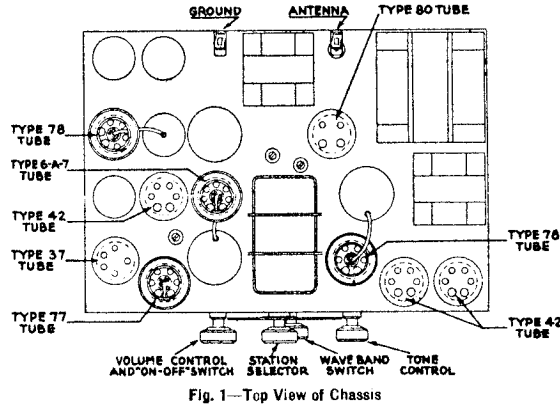

Fig. 1—Top View of Chassis
The intermediate frequency compensating condensers should be adjusted first. The intermediate frequency is 175 kilocycles. The location of these compensating condensers is: (a) 1st. I. F. PRIMARY—(1),—underneath the chassis. May be reached through hole in chassis sub-base to rear, left, of Tuning Condenser Assembly (5). See Figure 1. (b) 1st. I. F. SECONDARY—(2),—at rear of chassis, and accessible therefrom. Mounted near (35) and (36) electrolytic condensers. (c) 2nd. I. F. PRIMARY—(3),—at rear of chassis. Accessible from rear. Mounted next to (25). (d) 2nd. I. F. SECONDARY—(4),—underneath the chassis. Accessible through hole in sub-base, located between Type 42 (Driver) and Type 77 (1st. A. F.). See Figure 1.
Next, the "OSC.; H. F." (15), "DETECTOR" (11), and "ANT.; H. F." (5) compensating condensers should be adjusted in the order given. (15) and (11) are mounted upon the Tuning Condenser Assembly (5). (8) is located underneath the chassis, accessible through hole in sub-base at rear of Tuning Condenser Assembly (5),—between Tuning Condenser and Type 80 (Rectifier). See Figure 1. The signal generator is adjusted to a frequency of 1500 K. C. for (15), to 1400 K. C. for (11) and (8).